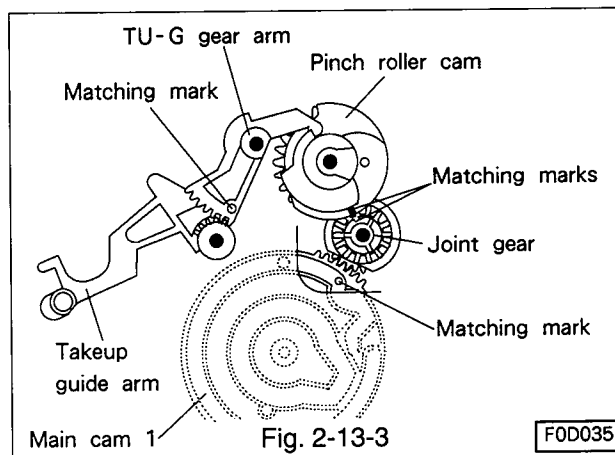

Fig. 2-13-3
- Line the matching mark on the TU-G gear arm and beginning of gear section on the takeup guide arm, and line the matching mark on the pinch roller cam and center of gear on the joint gear as shown in Fig. 2-13-3, and install the pinch roller cam and the TU-G gear to the shaft at the same time.